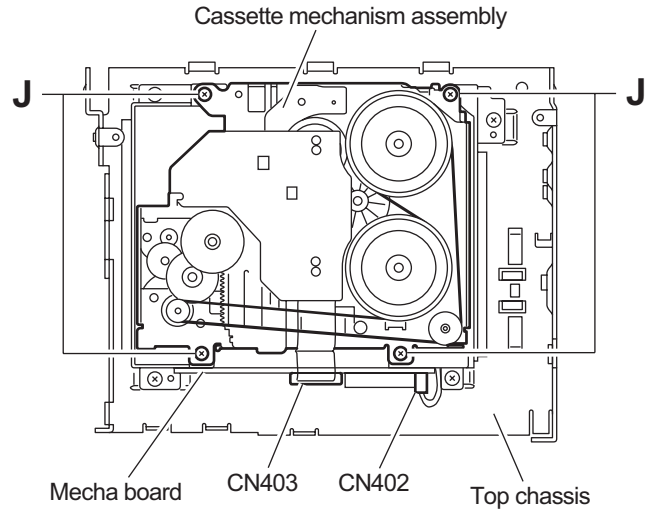

Fig.8
2.1.7 Removing the cassette mechanism assembly (See Fig.8)